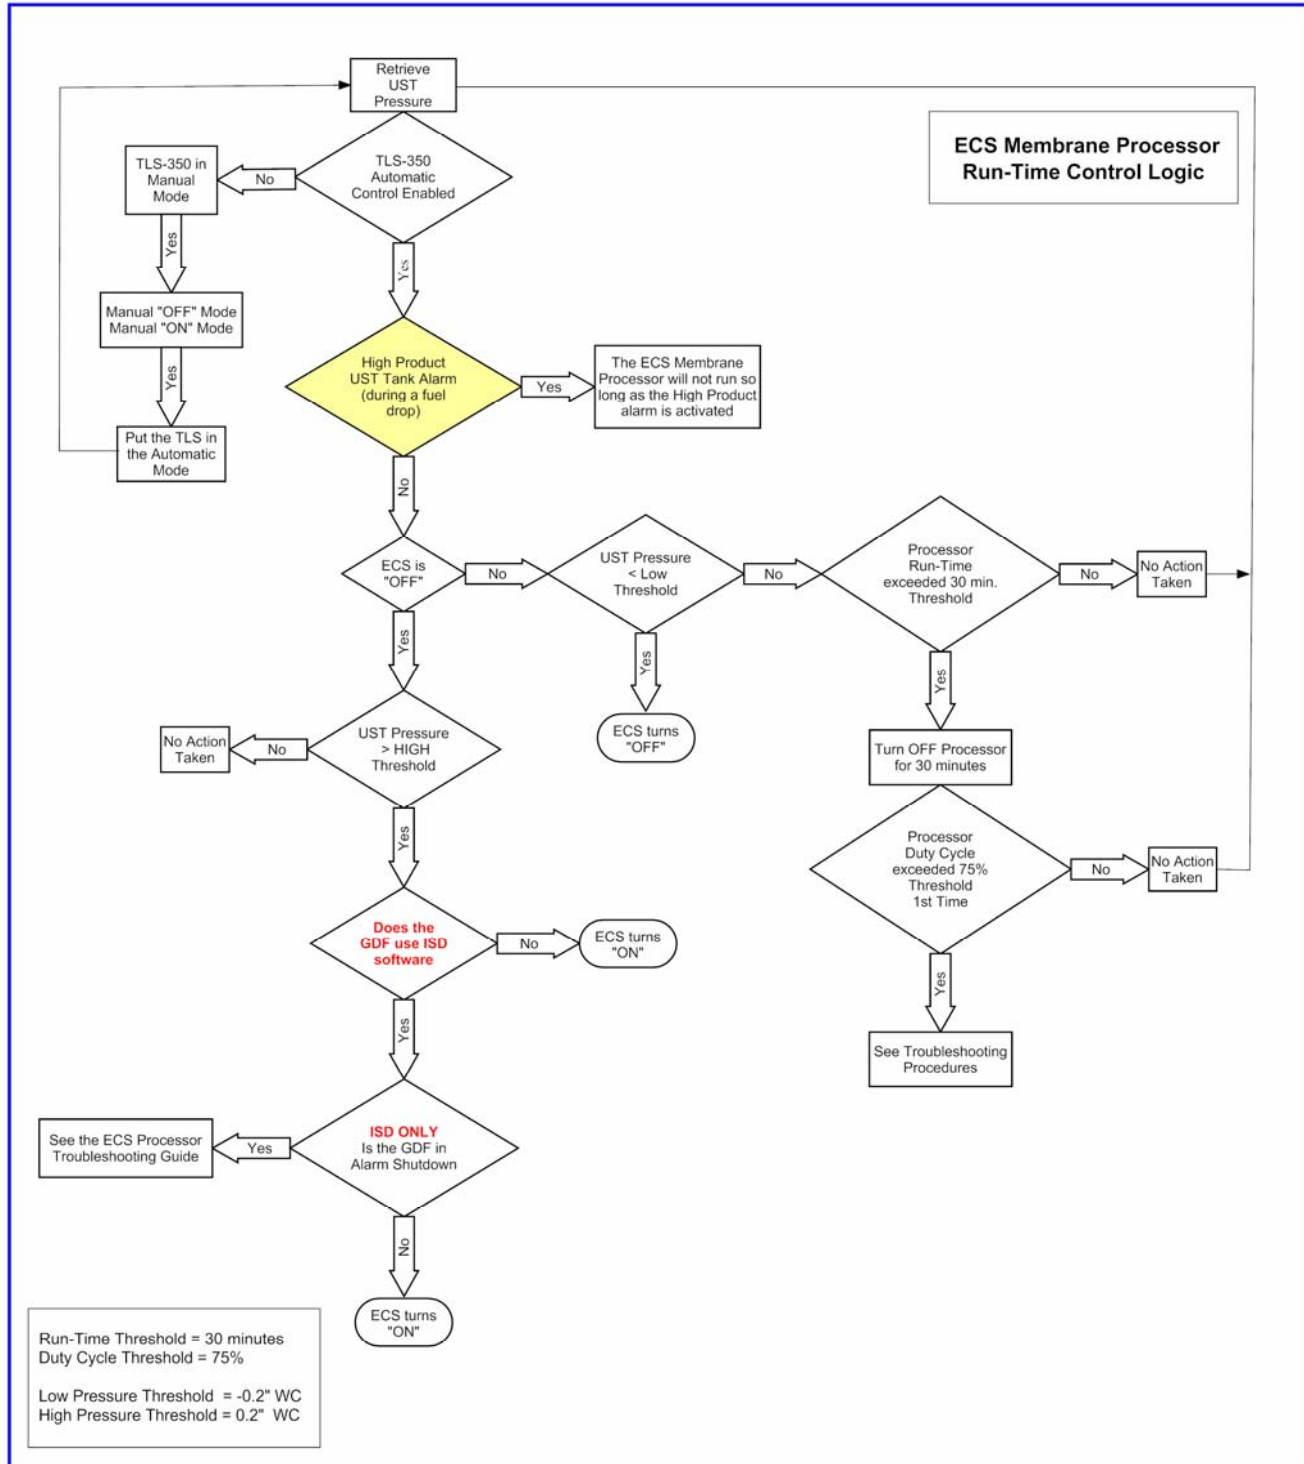

Figure 7: Processor Run-Time Algorithm
- The internal relay must be programmed as a **VST VAPOR PROCESSOR (VP)** through the TLS 350 relay setup menu.
- Figure 7 shows the *Processor Run-Time* Algorithm.